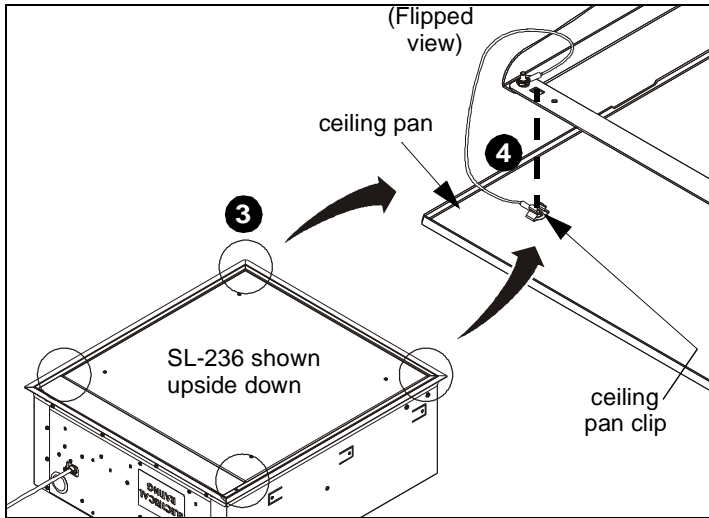

Figure 1
3. Using a small screwdriver, carefully pry one corner of ceiling pan up to allow access to ceiling pan clips. (See Figure 1)